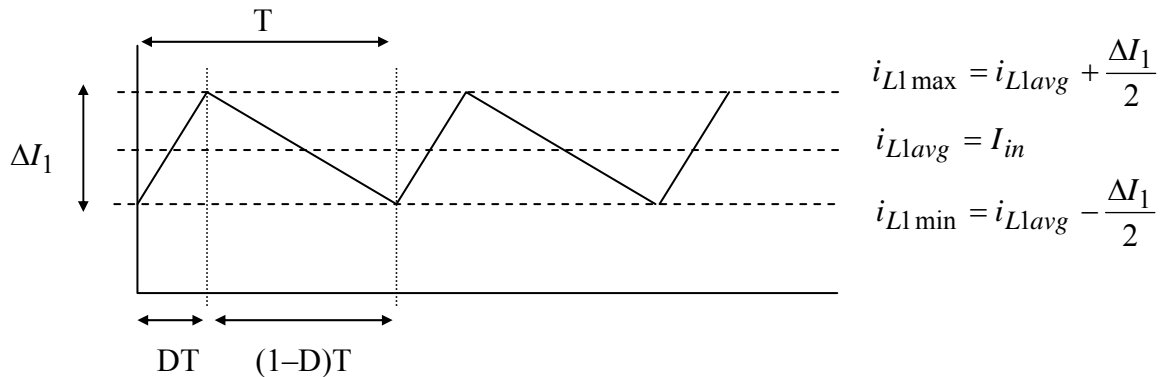
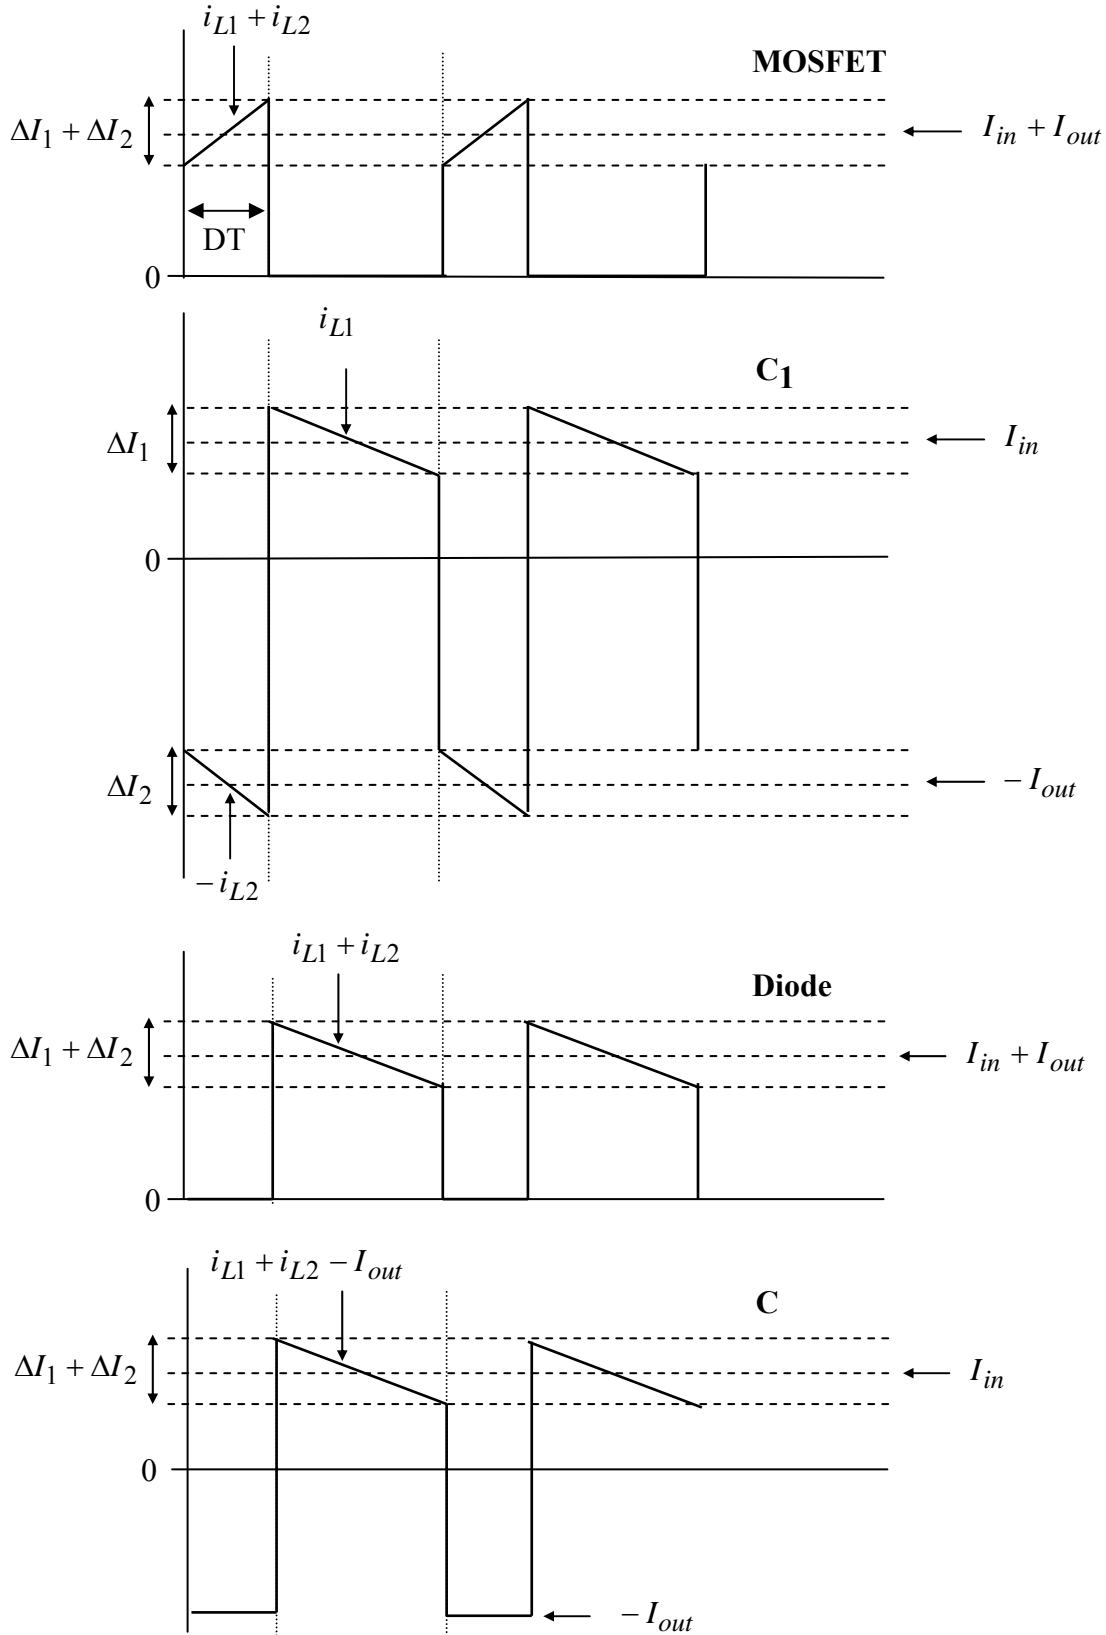

Figure 4. Inductor  $L_1$  Current Waveform for Continuous Conduction
Figure 8. Current Waveforms for MOSFET, Capacitors, and Diode in Continuous Conduction
The graph of  $i_{L1}$  is shown in Figure 4. For PV applications, it is obviously desirable to have low ripple in  $i_{L1}$  to keep the solar panel operating at the peak of its maximum power curve.
From Figure 4 and Equation (3), when the switch is open (i.e.,  $L_1$  is “discharging”),
Continuous current waveforms for the MOSFET, the capacitors, and the diode in continuous conduction are shown in Figure 8 on the following page. Corresponding waveforms for the inductors were shown previously in Figures 4 and 6.
For the MOSFET and diode, assuming large worst-case  $D$ , and using Figure 8,
For  $C_1$  and  $C$ , using Figure 8,
The maximum ripple voltage calculation for output capacitor  $C$  follows from Figure 8 and is the same as for the boost converter, namely
Comparing the current graphs for  $C_1$  and  $C$  in Figure 8 during the  $DT$  “switch closed” period, it can be seen graphically that the ripple voltage on  $C_1$  and  $C$  are the same, i.e. Equation (22).